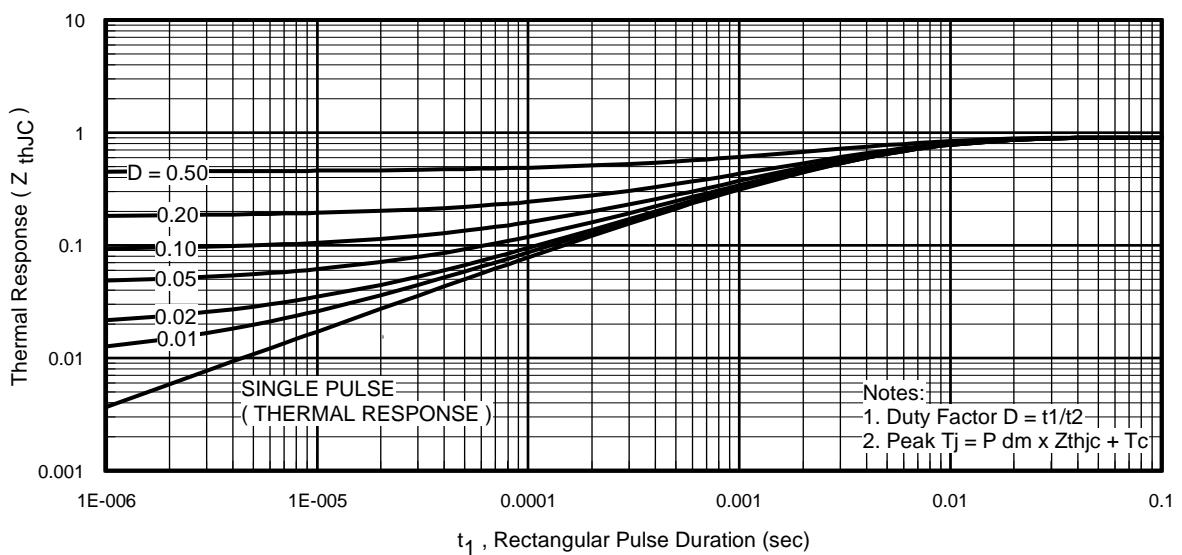
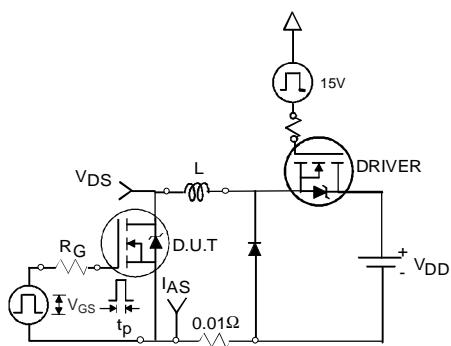

Fig 11. Maximum Effective Transient Thermal Impedance, Junction-to-Case
Fig 12a. Unclamped Inductive Test Circuit
- ① Repetitive rating; pulse width limited by max. junction temperature. (See fig. 11).
- ② Limited by $T_{J\text{max}}$, starting $T_J = 25^\circ\text{C}$, $L = 0.12\text{mH}$, $R_G = 25\Omega$, $I_{AS} = 53\text{A}$, $V_{GS} = 10V$. Part not recommended for use above this value.
- ③ $I_{SD} \leq 53\text{A}$, $di/dt \leq 420\text{A}/\mu\text{s}$, $V_{DD} \leq V_{(\text{BR})\text{DSS}}$, $T_J \leq 175^\circ\text{C}$.
- ④ Pulse width $\leq 1.0\text{ms}$; duty cycle $\leq 2\%$.
- ⑤ $C_{oss \text{ eff.}}$ is a fixed capacitance that gives the same charging time as C_{oss} while V_{DS} is rising from 0 to 80% V_{DSS} .
- ⑥ Limited by $T_{J\text{max}}$, see Fig.12a, 12b, 15, 16 for typical repetitive avalanche performance.
- ⑦ This value determined from sample failure population. 100% tested to this value in production.
- ⑧ This is applied to D²Pak, when mounted on 1" square PCB (FR-4 or G-10 Material). For recommended footprint and soldering techniques refer to application note #AN-994.
3. Equation below based on circuit and waveforms shown in Figures 12a, 12b.
$Z_{thJC}(D, t_{av})$ = Transient thermal resistance, see figure 11)